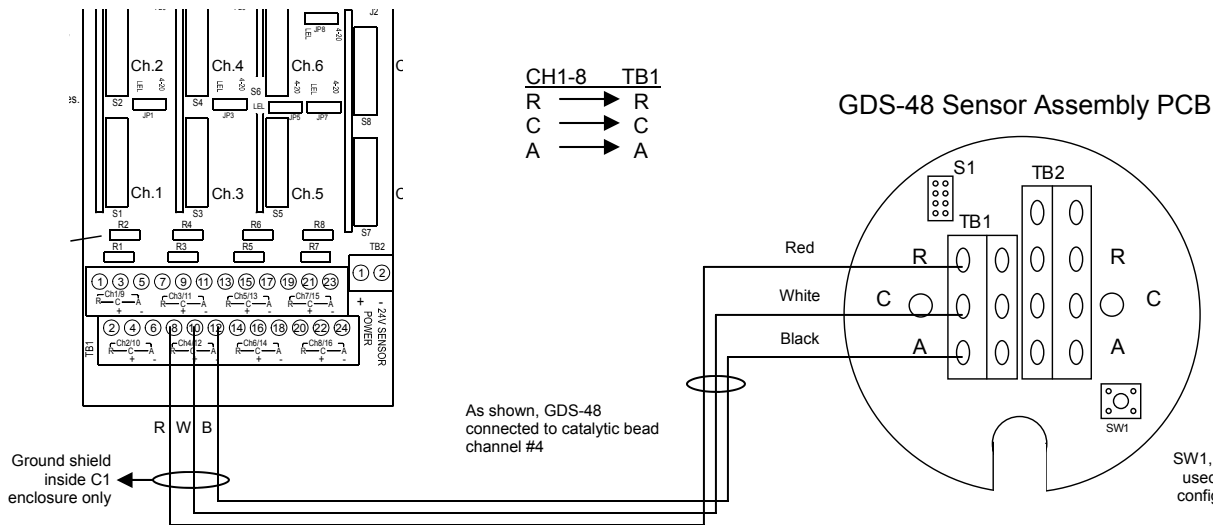

Fig 3. C1 Controller to GDS-48 Wiring Diagram for Catalytic Bead
- 3) Connect the C1 to the GDS-48 as shown in Fig. 3. (R = Reference Bead, C = Common, A = Active Bead)